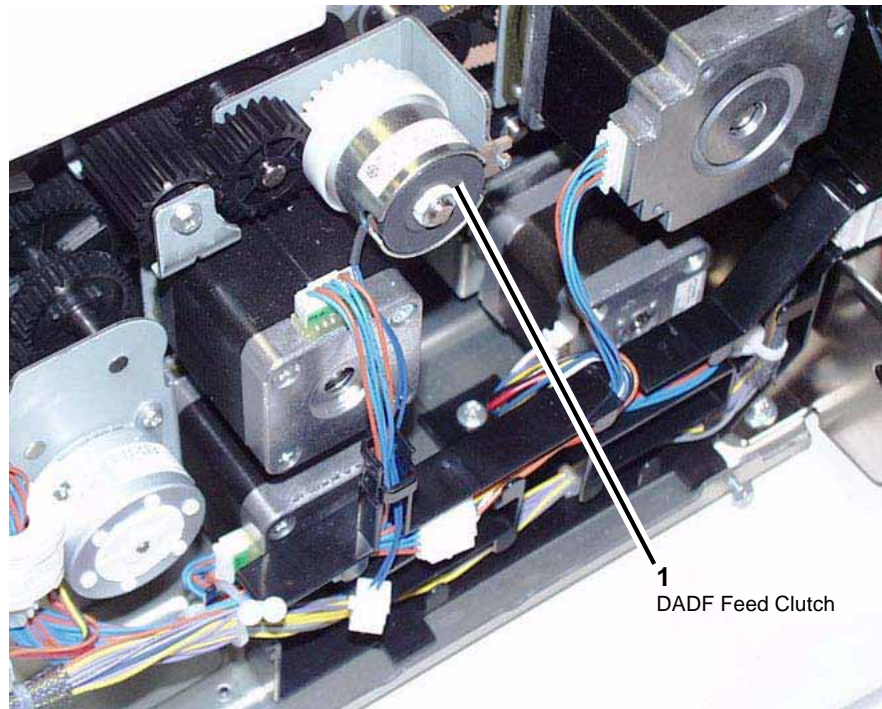

Figure 1 DADF Feed Clutch
2. Remove the DADF Feed Clutch. Figure 1